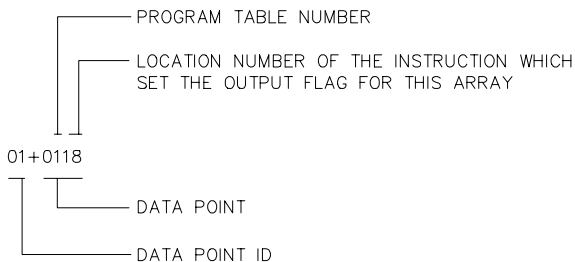

FIGURE 2.1-2. Output Array ID
1. In the default condition, the ID consists of the program table number and the Instruction Location Number of the instruction which set the Output Flag for that particular array of data. For example, the ID of 118 in Figure 2.1-2 indicates that the 18th instruction in Table 1 set the Output Flag.